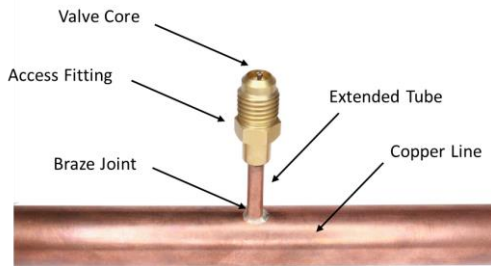

Figure 2-5: Brazed access fitting
7. Place the valve core back onto the access fitting and tighten the connection. This step completes the installation of the $\frac{1}{4}$ " access fitting. The final result should look similar to what is shown below in **Figure 2-5**.